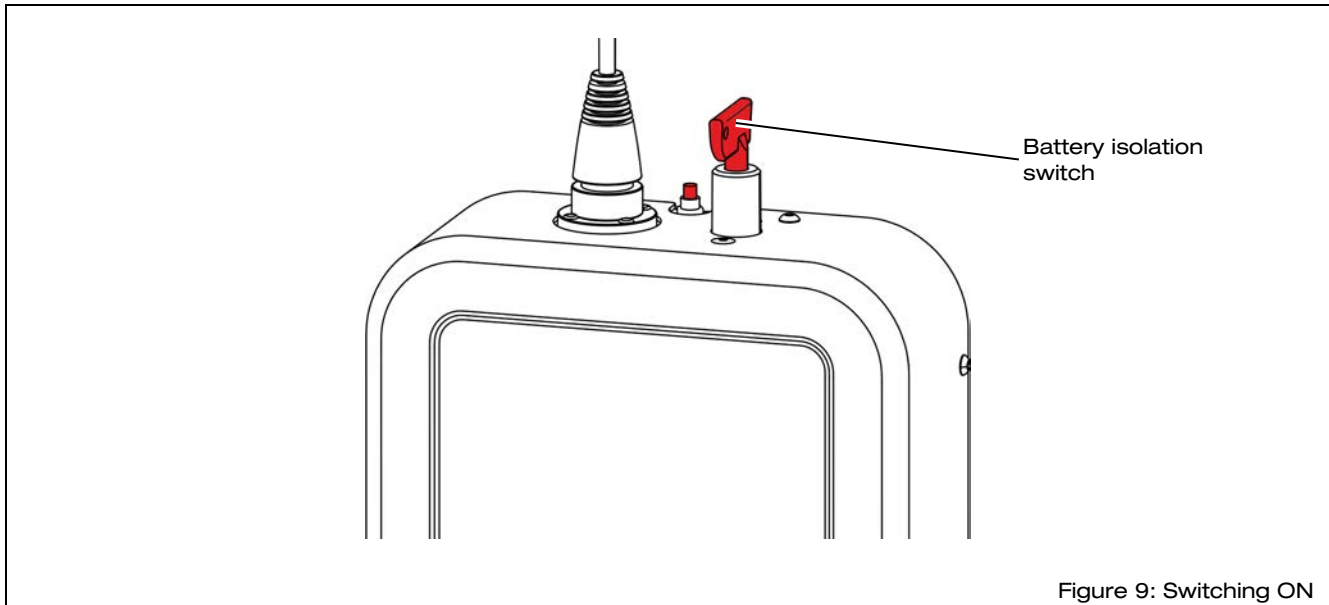

Figure 9: Switching ON
⇒ Switch the linear lift OFF at the battery isolation switch (5) (see Figure 9).
- ⇒ Insert the key into the battery isolation switch (5) (see Figure 9).
- ⇒ Switch the linear lift ON at the battery isolation switch (5).
- ⇒ Switch the linear lift OFF at the battery isolation switch (see Figure 9).
- ⇒ Switch the linear lift ON (see Figure 9, page 24).
- ⇒ Press and hold the “UP” push-button (1) on the remote control.